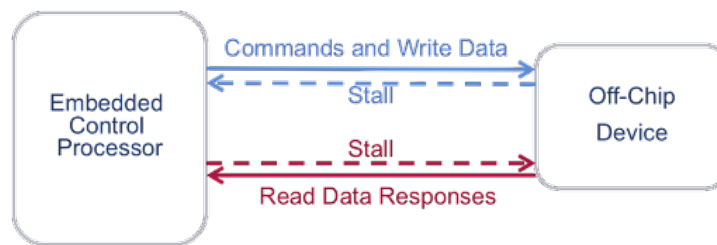

Figure 3: Communication diagram.
2. (7 points) You are designing a system that has an off-chip device that needs to have both data and commands sent to the device, while also being able to respond with data on a read request. Both the device and control processor need a mechanism to stall transactions. **Figure 3** illustrates the system.